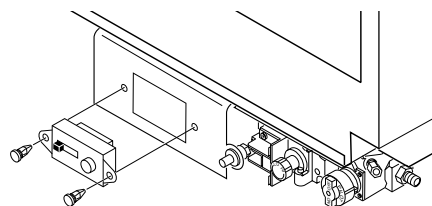

Figure 47 - Installing Remote Receiver
5. Place receiver into valve bracket and align holes (see Figure 47).